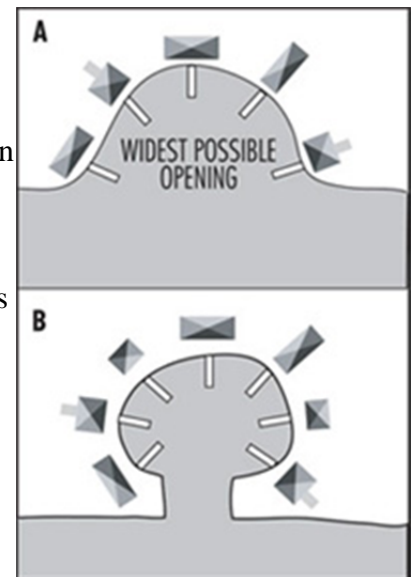

Figure 4.6
- Boat basins should be designed with the widest possible opening and the shortest possible entrance to promote flushing and exchange of waters. The depth of a boat basin should decrease from the waterward end to the landward end (see Figure 4.6).